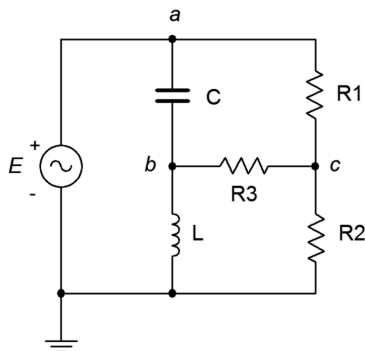

Figure 6.9
17. Given the circuit in Figure 6.9, use mesh analysis to determine v_{bc} . $E = 10\angle 0^\circ$, $R1 = 1\text{ k}\Omega$, $R2 = 2\text{ k}\Omega$, $R3 = 3\text{ k}\Omega$, $X_C = -j4\text{ k}\Omega$, $X_L = j8\text{ k}\Omega$.
18. Use mesh analysis to find the current through resistor R3 in the circuit of Figure 6.9. $E = 20\angle 0^\circ$, $R_1 = 10\text{ k}\Omega$, $R_2 = 30\text{ k}\Omega$, $R_3 = 1\text{ k}\Omega$, $X_C = -j15\text{ k}\Omega$, $X_L = j20\text{ k}\Omega$.
52. Given the circuit in Figure 6.9, use nodal analysis to determine v_{bc} . $E = 20\angle 0^\circ$, $R1 = 10\text{ k}\Omega$,